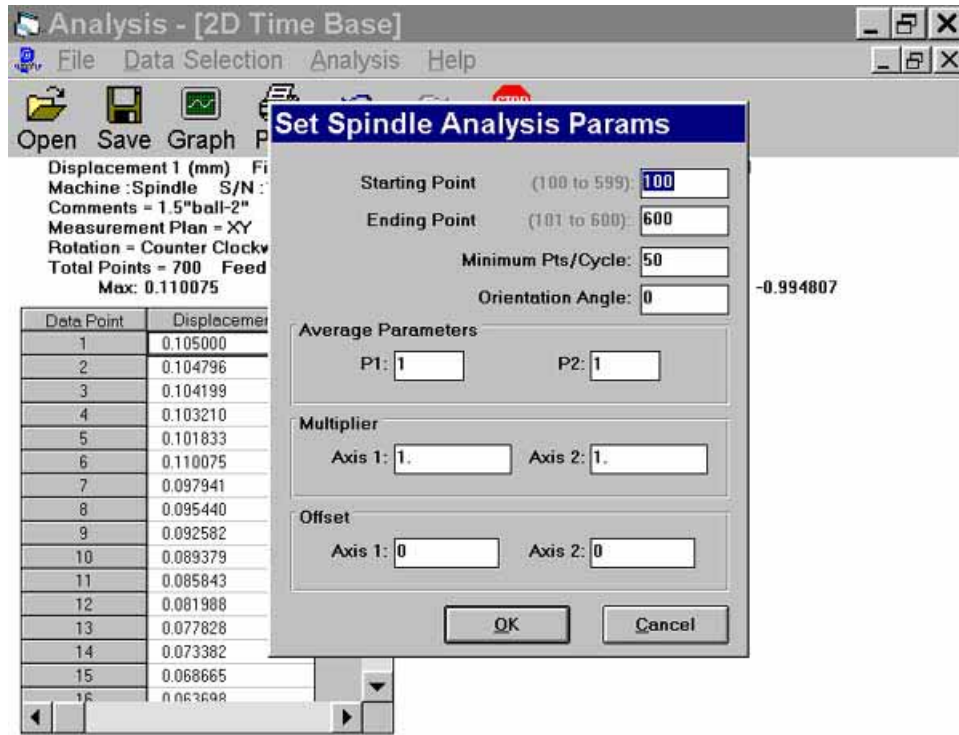

Fig. 11-6 A Popup Screen to Select the Spindle Analysis Parameters
7. A “Set Spindle Analysis Parameters” screen will popup, as shown in Fig. 11-6. Enter the starting point number, ending point number, Make sure there is no large jump between the starting and the ending point (see above point 3) . The minimum points per cycle is set at 50 and the orientation angle at 0. The zero angle is the X-axis in the positive direction. To rotate an angle  $\phi$ , CW, enter  $\phi$  degree in the orientation angle. Average parameters P1 and P2 are the number of points of the average. The default value is 1. Multiplier is the scale factor of axis 1 And axis 2. They can be positive or negative. The default value is 1. The off-set is the value add to the data file. The default value is 0. Click on “Ok.